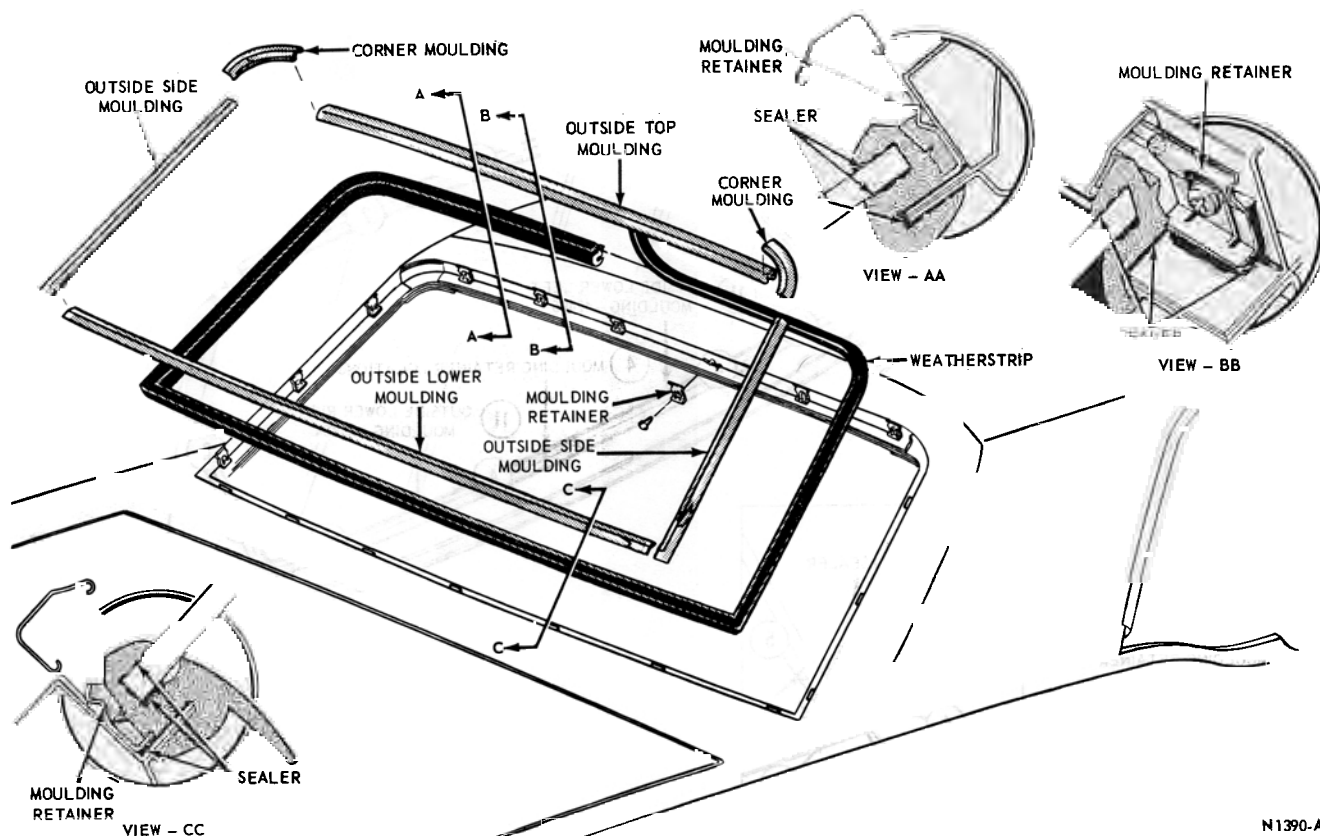

FIG. 22—Back Window Installation—Mustang Body Type 65
ing into position over its retaining clips (Fig. 22).
8. Snap the outside upper moulding into position over its retaining clips (Fig. 22).
9. Snap the outside side mouldings into position over the retaining clips (Fig. 22).